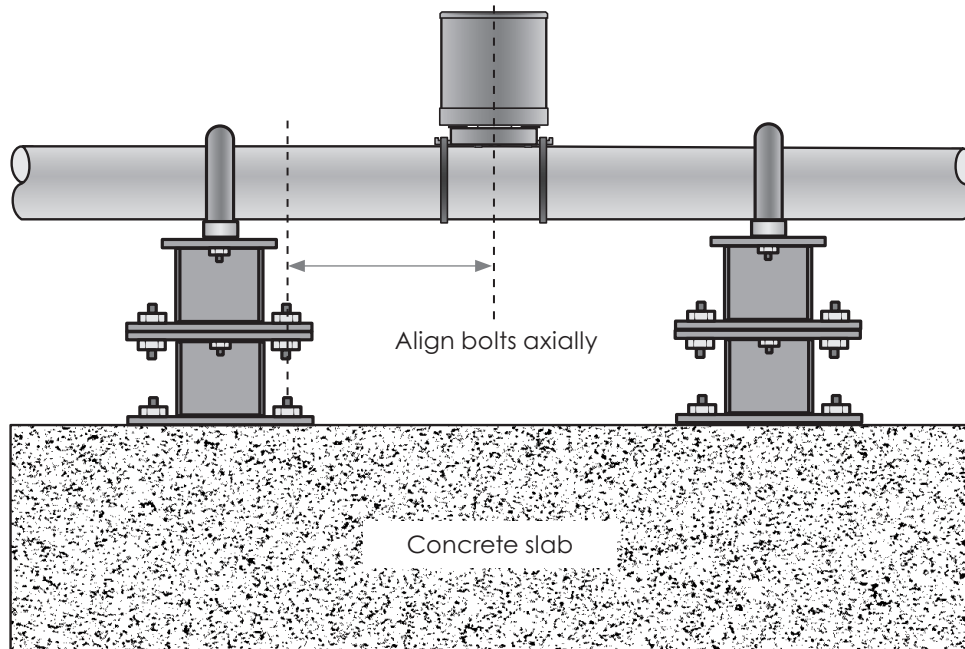

Figure 5.2
- If the rigid supports are comprised of several sections, welding is strongly preferred over bolting. If welding is not possible and bolts are used, the bolts should be aligned axially in the same direction in which the sensor strikes the pipe, as shown in Figure 5.2